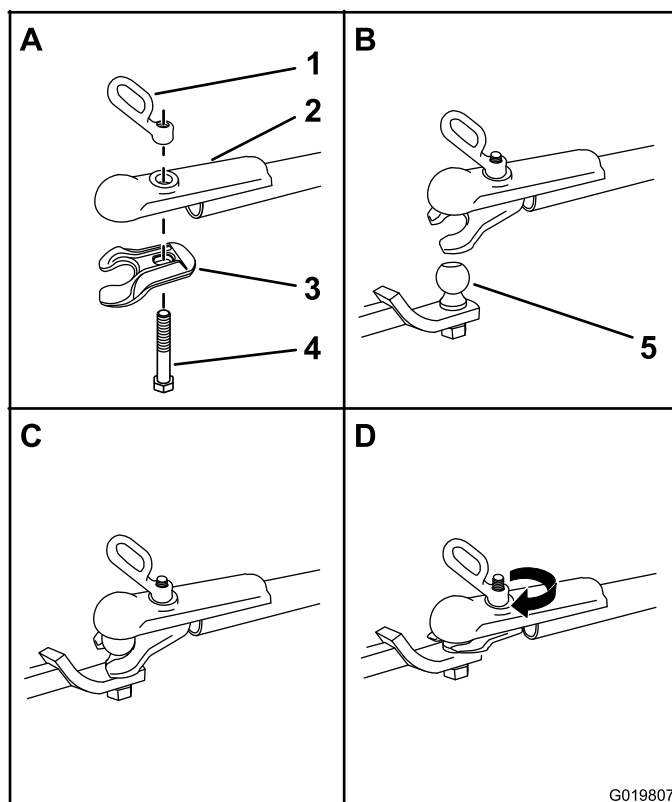

Figure 23
1. Apply removable thread-locking compound to the threads of the coupler bolt to prevent the coupler handle from coming loose (Figure 23).